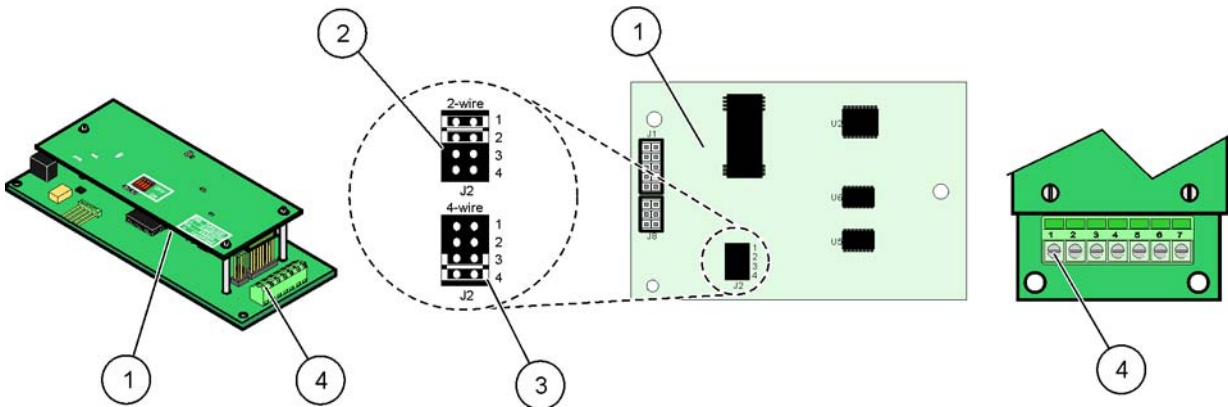
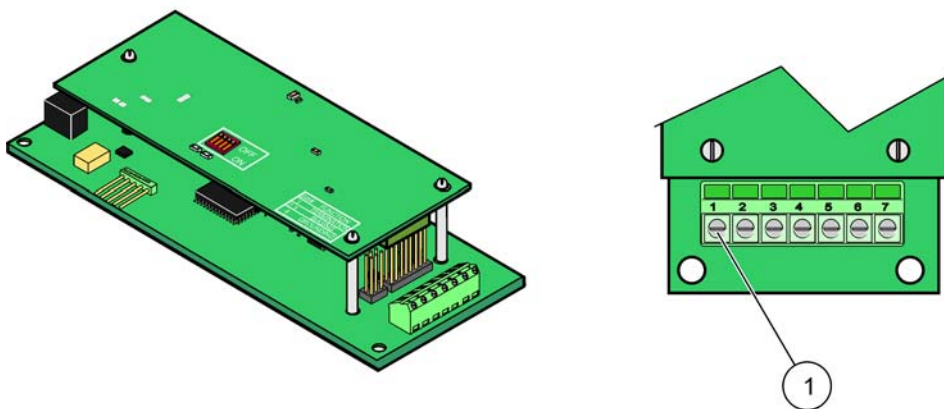

Figure 24 Modbus RS485 (YAB021) card connections
Figure 25 Modbus RS232 (YAB047) card connections
4. Feed the cable through the base of the module and properly prepare and insert each wire into the terminal according to Figure 24/Table 7 and Figure 25/Table 8.